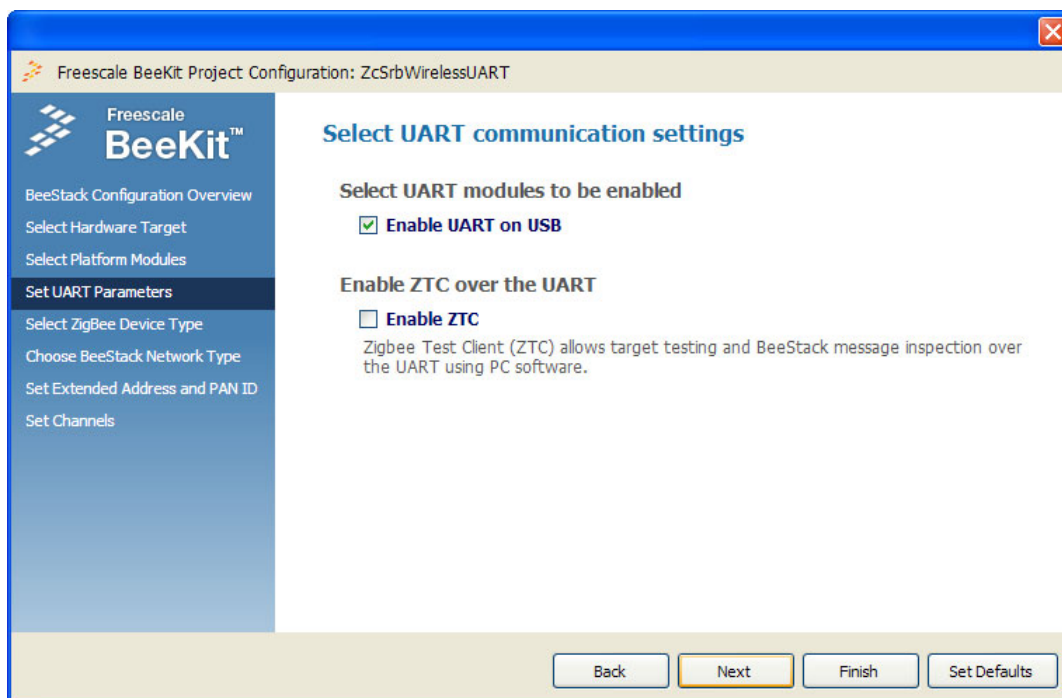

Figure 5-6. UART Parameters Page
4. Leave the default platform modules settings unchanged. (LEDs and Keyboard modules on the SRB board enabled.) Click the Next button and the Set UART Parameters window appears as shown in Figure 5-6. Leave the default UART settings unchanged. (The UART module enabled on the USB port of the SRB and the ZigBee Test Client (ZTC) disabled.)